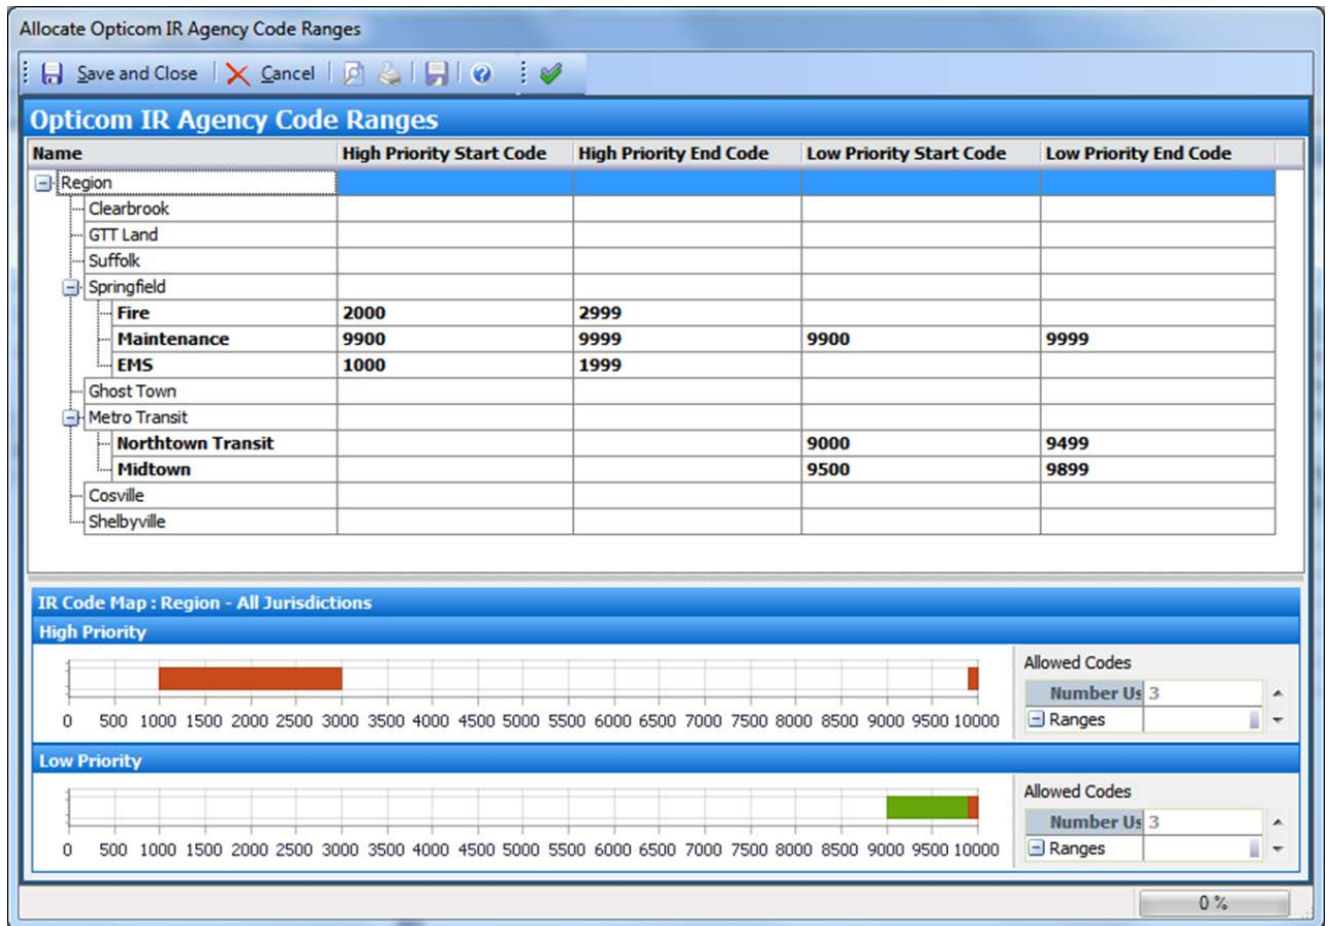

Figure 7-1
3. Enter a start code number and an end code number for each agency in the appropriate priority level. See Figure 7-1.